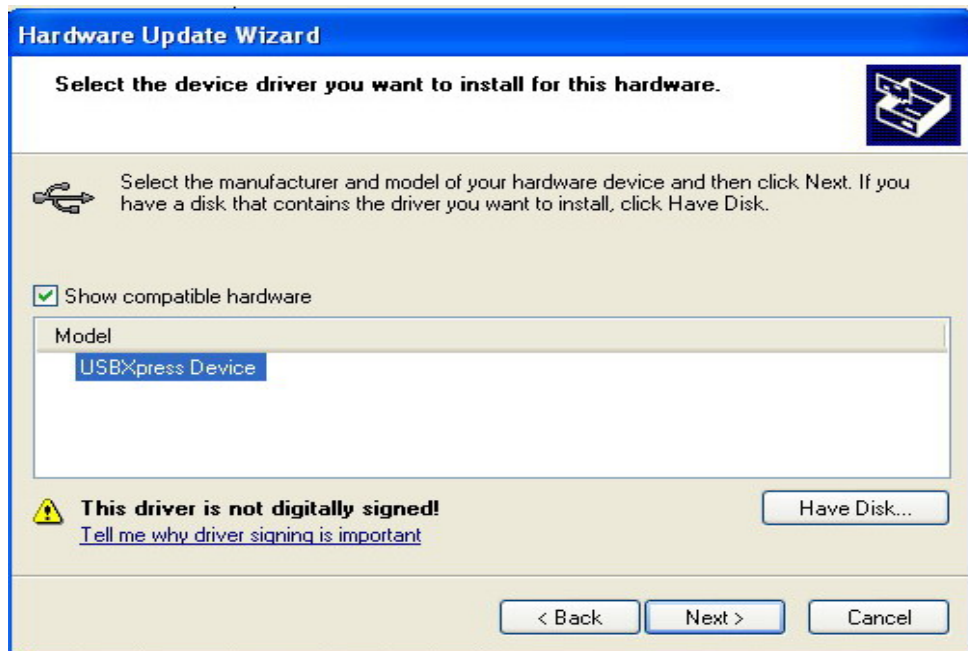

Figure 12
5.4 5.4 Next move, the choice" install from the disk" figure 12